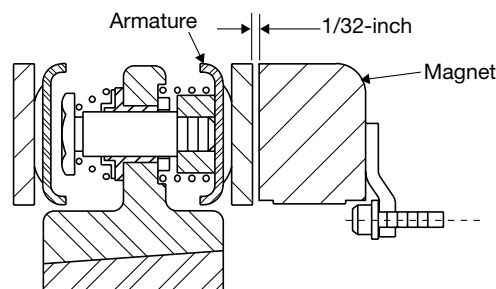

Figure 13
3. Place the face of the armature approximately 1/32 inch from the face of the magnet. Once this gap is set, it will be automatically maintained throughout the life of the unit. (Figure 13)